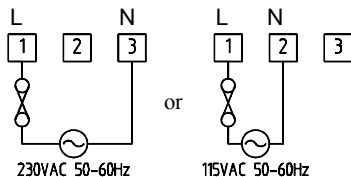

Figure 5.1 Auxiliary Mains Supply
The ELR101 should be protected by an external fuse (Figure 5.1). Under normal fault-free operation the ELR101 requires an average AC current not exceeding 35mA. The external fuse may protect other equipment within the installation. It should be rated at the total fault current for the system. Refer to the operating information for each device for individual protection current requirements. The ELR101 contains an internal fuse rated at 50mA (T). This fuse should not be replaced by unauthorised personnel.